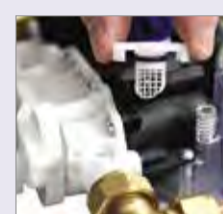

Fig.3
- Remove the filter assembly and clean as necessary. (Fig.3).